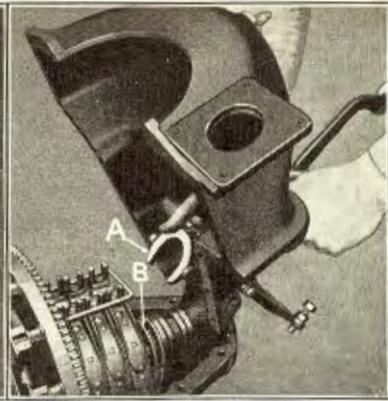

Fig. 305
- (e) Insert clutch release ring (See "A" Fig. 305) into rear groove "B" on clutch shift. Cover is then lowered until it rests on block of wood on crankcase.